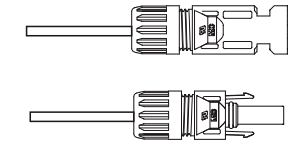

Figure 5.20 Connector with Cap nut Screwed on
4. Insert metal connector into top of connector, and tighten nut with torque 3-4 Nm (see figure 5.20).